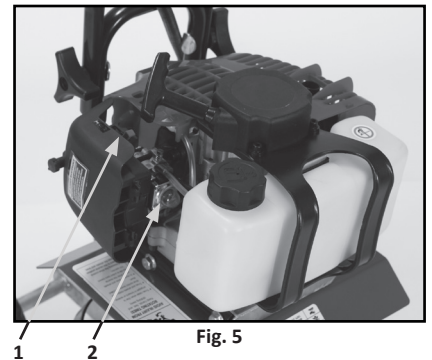

Fig. 5
6. Press the purge bulb (fig. 5 - item 2) until you see fuel flow through the clear fuel return line. Since you're starting "cold", you may need to press six to eight times. As soon as fuel starts flowing through the clear fuel line, stop pressing.
8. Move the choke lever (fig. 5 - item 1) to the close (choke) position.